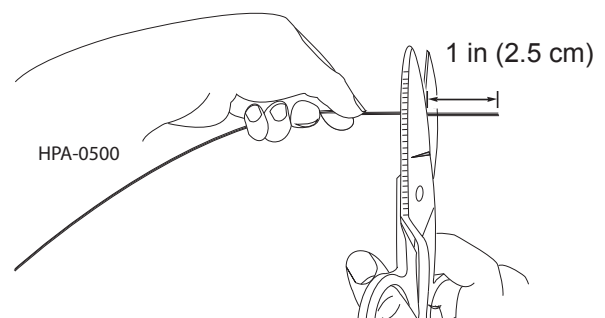

Figure 12
**Step 5:** Use scissors to trim 1 in (2.5 cm) from the end of the fibers. The fibers are now ready to be cleaned and terminated (Figure 12).